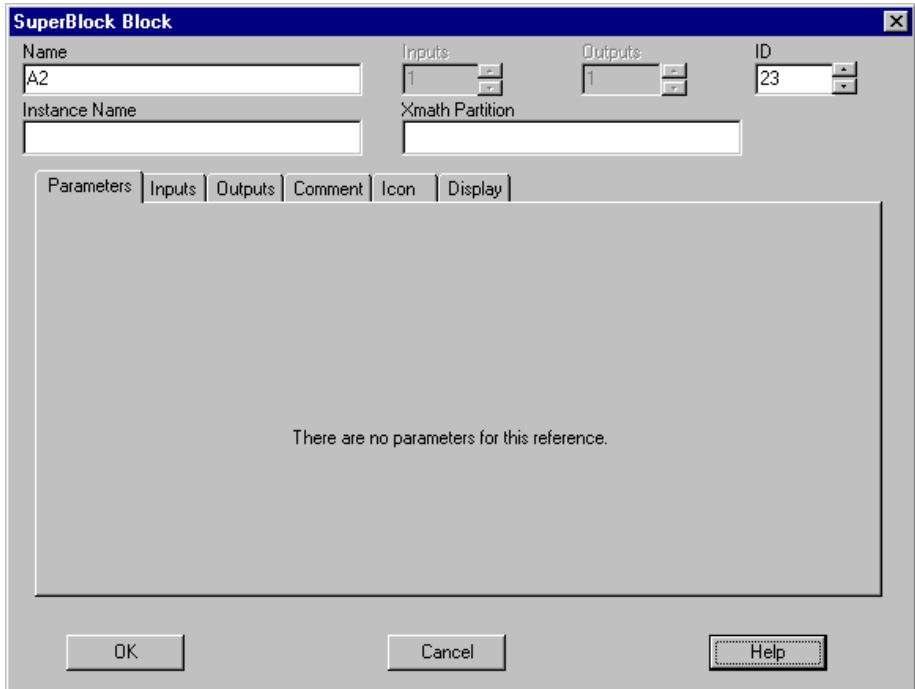

Figure 4-4. SuperBlock Block Dialog Box that References an Existing SuperBlock
After you create a SuperBlock, you must define its properties through the SuperBlock Properties dialog. If you create a block from existing blocks (refer to the Making a New SuperBlock from Existing Blocks section), you also create a reference to the SuperBlock in the original diagram. You also must define the properties of the reference. The SuperBlock Block dialog box serves this purpose (refer to Figure 4-4).
A SuperBlock definition is saved as part of the catalog hierarchy. References are local instances of a SuperBlock. SuperBlock instances are represented by a block. Because the definition of the SuperBlock is elsewhere, you can only edit parameters local to the block, such as the name, labeling, and icon appearance. The SuperBlock reference dialog box is shown in Figure 4-4. Compare this to the SuperBlock Properties dialog box in Figure 2-3, *SuperBlock Properties Dialog Box*. If the SuperBlock is currently open in the editor, you can edit the SuperBlock properties. Any changes are global and affect the model at every instance.
The SuperBlock Block dialog box opens. Refer to Figure 4-4.
To view the SuperBlock Block dialog box, select a SuperBlock icon and press <Enter> or <Return>. Refer to Figure 4-4.
- When you change the Name field from a reference SuperBlock Block dialog box (refer to Figure 4-4), only that block is renamed. If the renamed SuperBlock exists in the catalog, the new name appears in the catalog hierarchy when you update the catalog. If the renamed SuperBlock does not exist in the catalog, the renamed SuperBlock does not appear in the catalog until you define it properly.